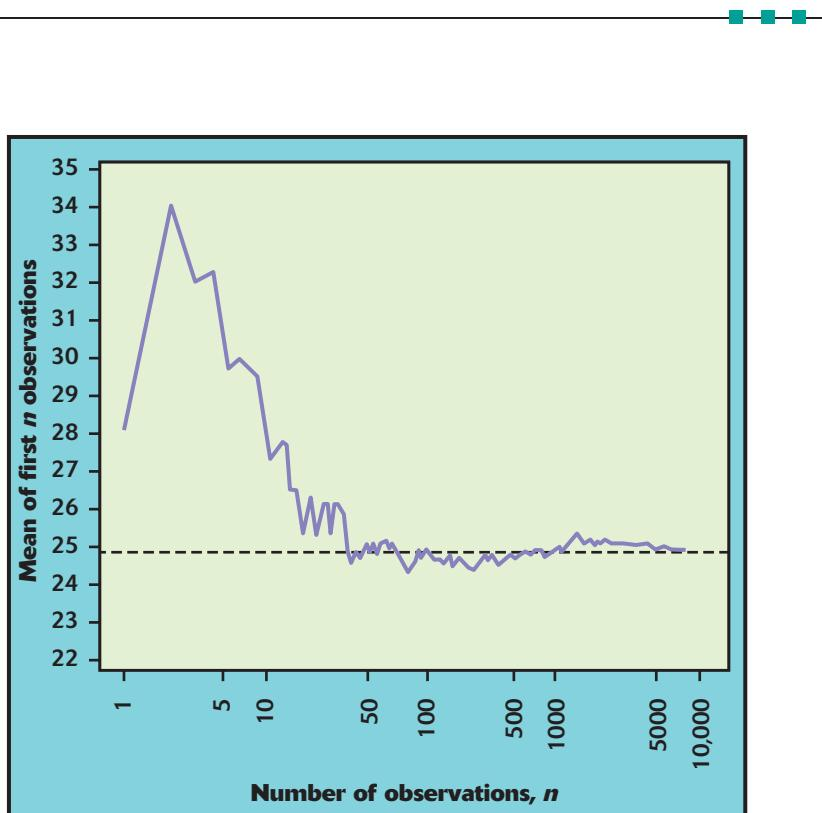

FIGURE 4.15 The law of large numbers in action: as we take more observations, the sample mean \bar{x} always approaches the mean μ of the population.
In fact, the distribution of odor thresholds among all adults has mean 25. The mean $\mu = 25$ is the true value of the parameter we seek to estimate. Typically, the value of a parameter like μ is unknown. We use an example in which μ is known to illustrate facts about the general behavior of \bar{x} that hold even when μ is unknown. Figure 4.15 shows how the sample mean \bar{x} of an SRS drawn from this population changes as we add more subjects to our sample.
The first subject in Example 4.21 had threshold 28, so the line in Figure 4.15 starts there. The mean for the first two subjects is
If we started over, again choosing people at random from the population, we would get a different path from left to right in Figure 4.15. The law of large numbers says that whatever path we get will always settle down at 25 as we draw more and more people.
As in the case of probability, an animated version of Figure 4.15 makes the idea of the mean as long-run average outcome clearer. The *Mean of a Random Variable* applet at the text Web site, www.whfreeman.com/pbs, gives you control of an animation.
The law of large numbers is the foundation of such business enterprises as gambling casinos and insurance companies. The winnings (or losses) of a gambler on a few plays are uncertain—that's why gambling is exciting. In Figure 4.15, the mean of even 100 observations is not yet very close to μ . It is only *in the long run* that the mean outcome is predictable. The house plays tens of thousands of times. So the house, unlike individual gamblers, can count on the long-run regularity described by the law of large numbers. The average winnings of the house on tens of thousands of plays will be very close to the mean of the distribution of winnings. Needless to say, this mean guarantees the house a profit. That's why gambling can be a business.
- 4.78 Figure 4.15 shows how the mean of n observations behaves as we keep adding more observations to those already in hand. The first 10 observations are given in Example 4.21. Demonstrate that you grasp the idea of Figure 4.15: find the mean of the first one, then two, three, four, and five of these observations and plot the successive means against n . Verify that your plot agrees with the first part of the plot in Figure 4.15.